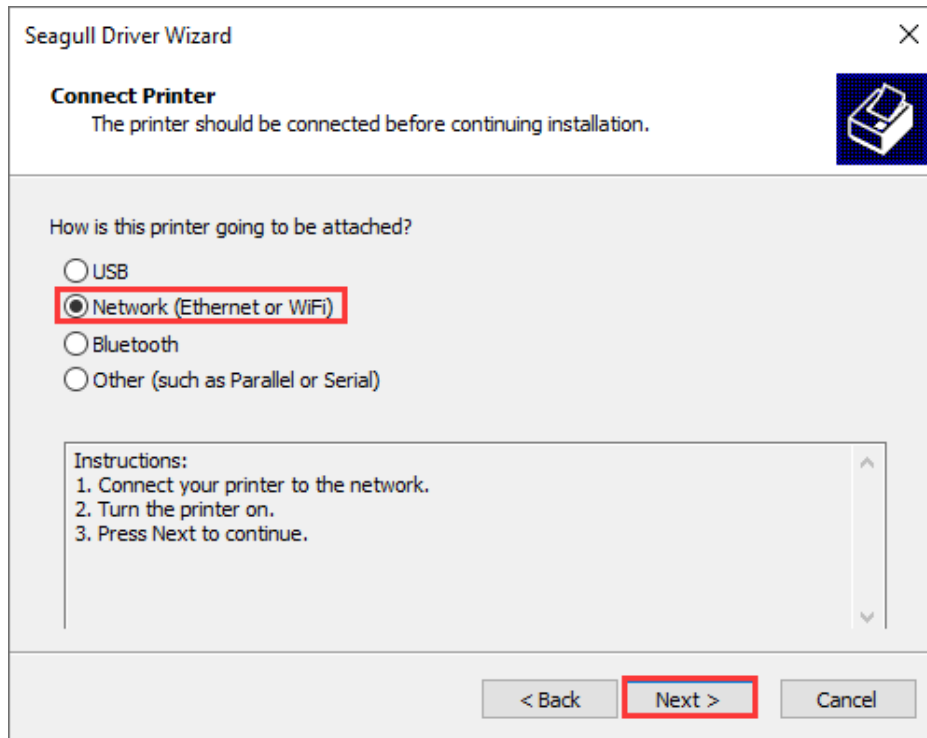

Figure 2-33 Connect Printer Screen
- On the “Connect Printer” screen, select “Network (Ethernet or WiFi)”, and then click “Next”, as shown in Figure 2-33.